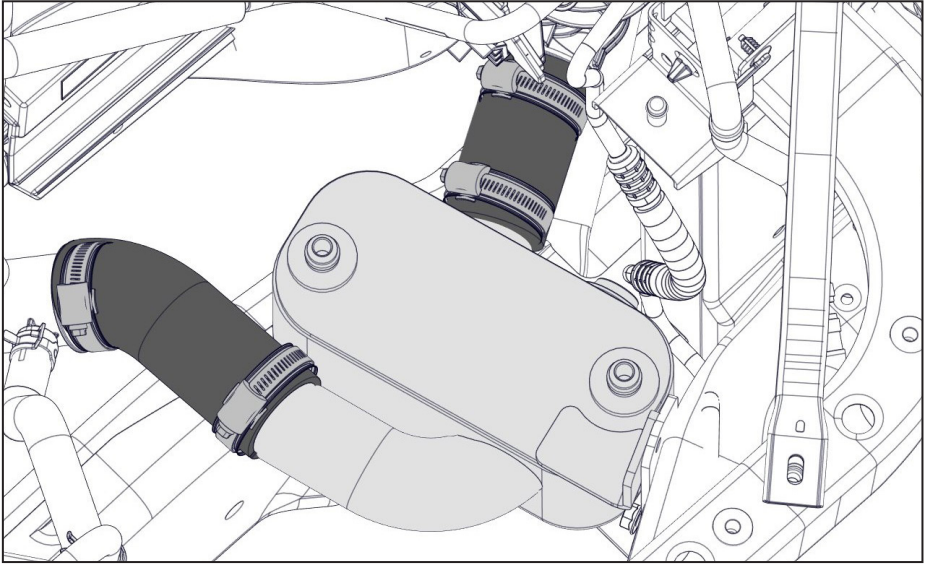

Figure 42 — Mount cooler
- ☐ Mount the cooler onto the cooler bracket, fitting the hoses loosely onto the cooler spigots (Figure 42).